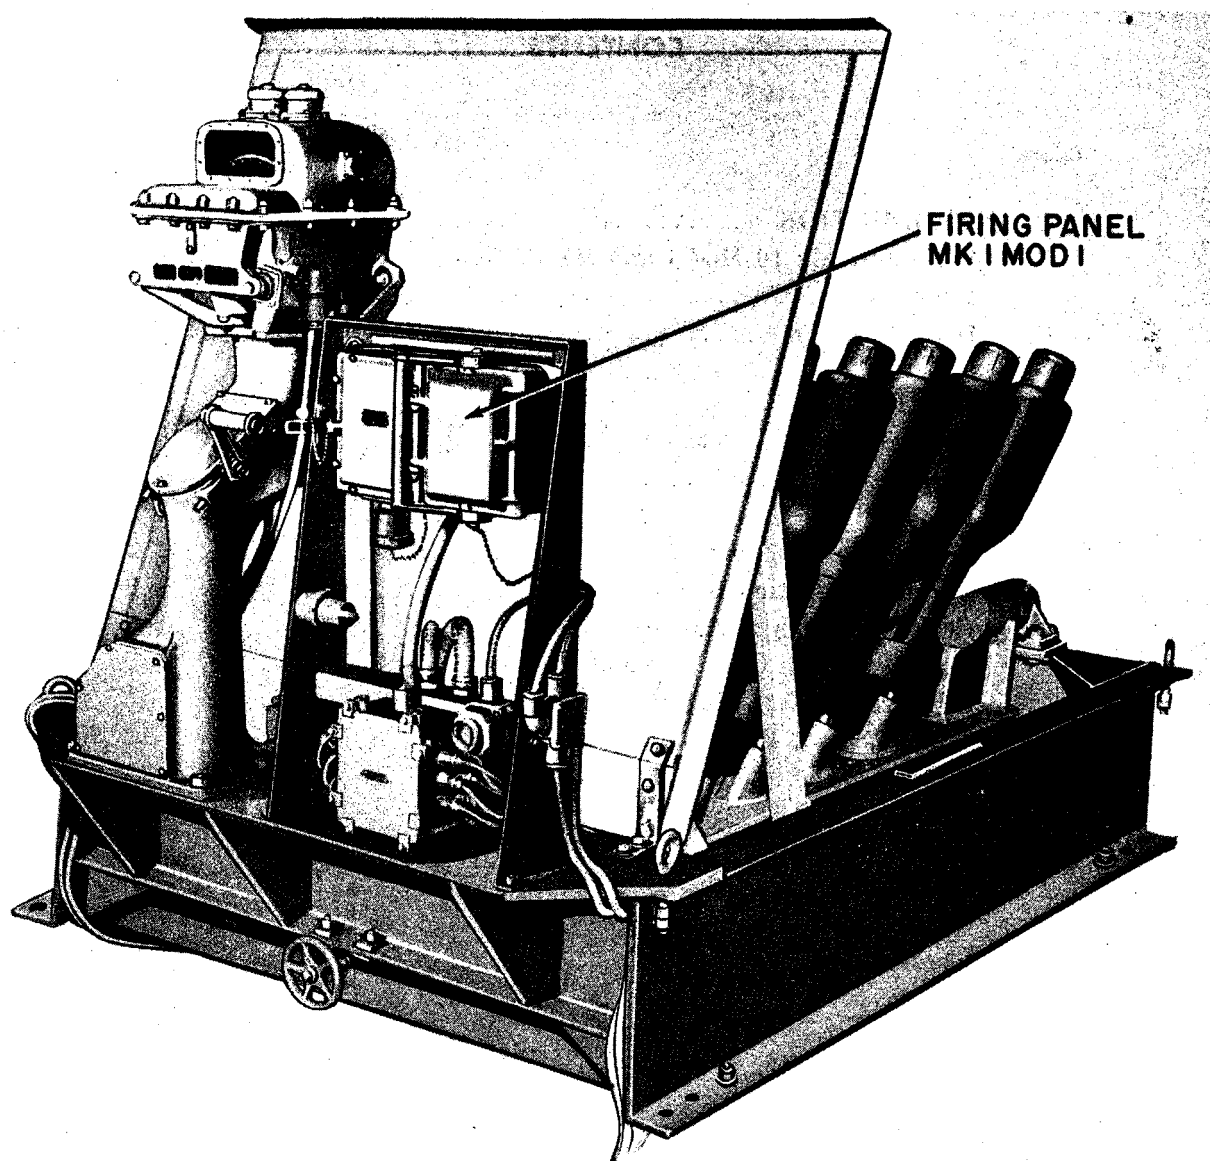
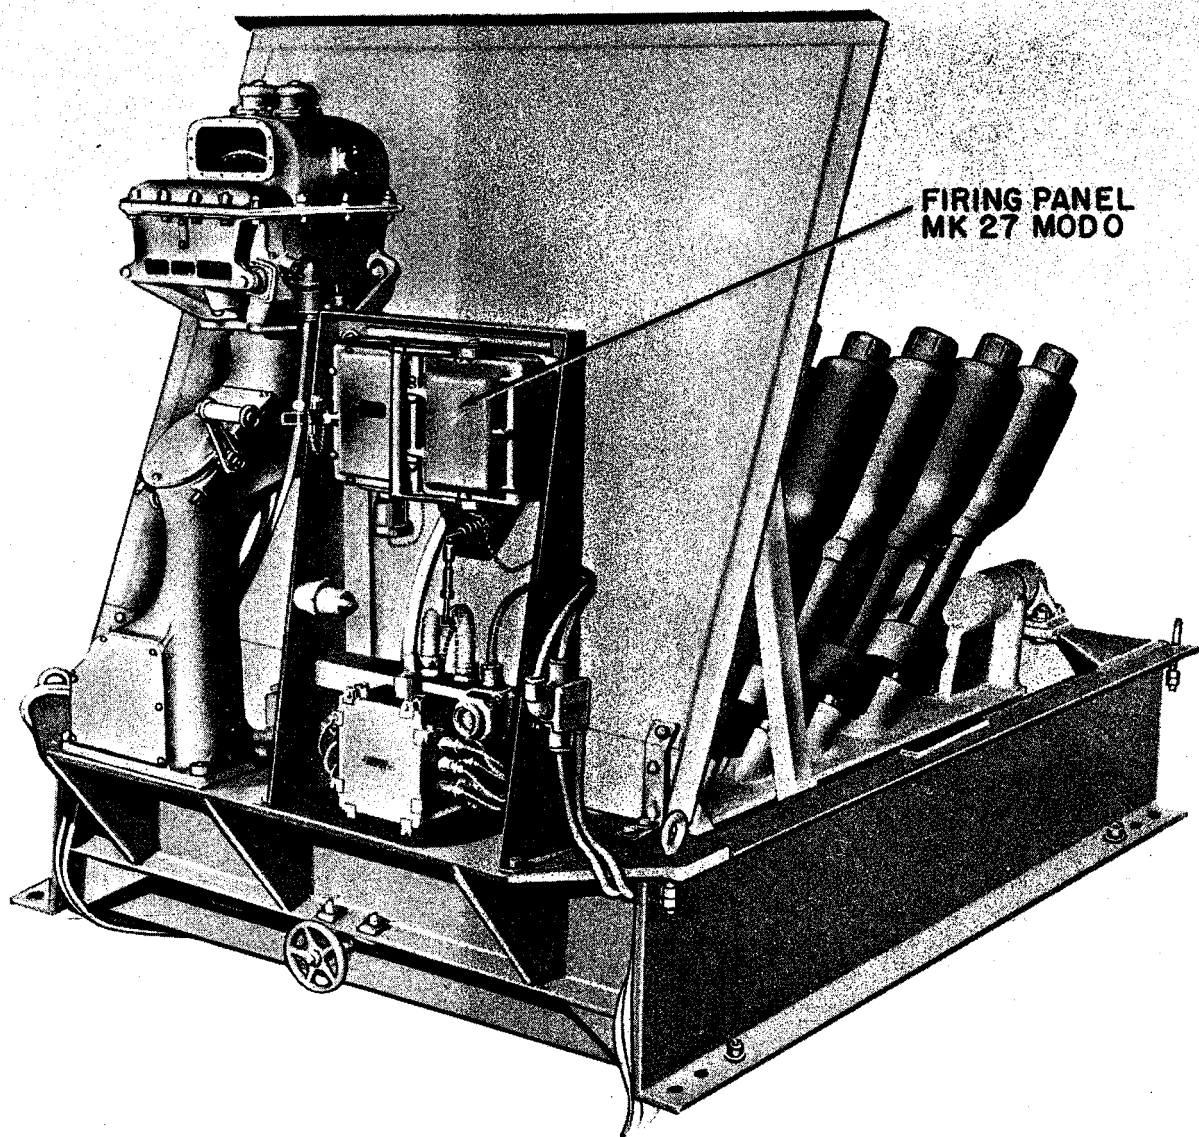
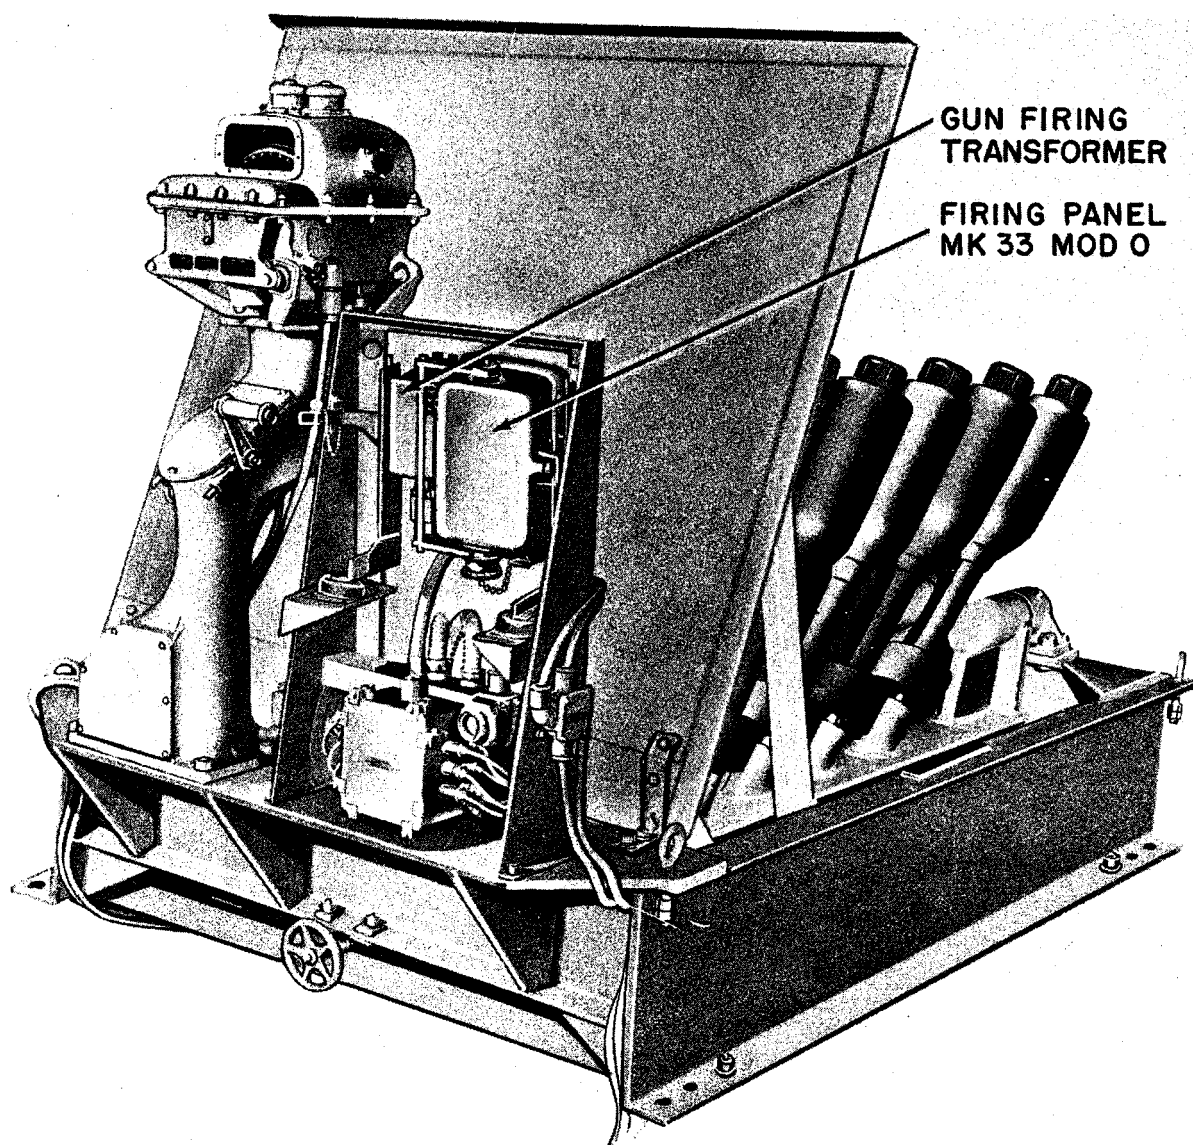

Figure 1. Projector Mk 10 Mod 1 or Mk 11 Mod 0 with Firing Panel Mk 1 Mod 1
Figure 2. Projector Mk 10 Mod 1 or Mk 11 Mod 0 with Firing Panel Mk 27 Mod 0
Figure 3. Projector Mk 10 Mod.1 or Mk 11 Mod 0 with Firing Panel Mk 33 Mod 0
Projectors Mk 10 Mod 1 and Mk 11 Mod 0, figures 1, 2, and 3, are forward-throwing weapons designed to project a group of 24 explosive charges ahead of the vessel on which the projectors are mounted.
a. Firing Panel Mk 1 Mod 1, figure 1, Firing Panel Mk 27 Mod 0, figure 2, or Firing Panel Mk 33 Mod 0, figure 3.